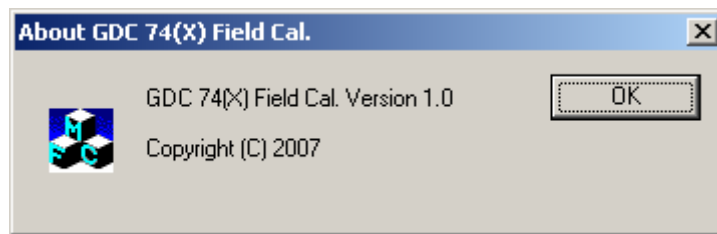

Figure 5-36. The 'About' Screen
11. After the unit type has been determined, the 'Set altitude to 0 ft' screen (Figure 5-36) appears.